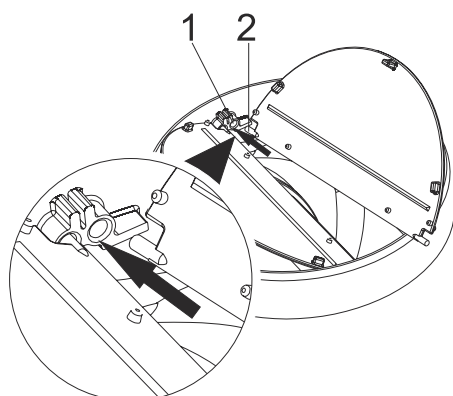

Fig. 10
- Insert the plastic pin (area no.2) on the pin socket on the motor exhaust (area no.1). Fig. 10. Then bend the flap lightly to insert the other pin on the flap and insert the other pin to its socket (Fig. 10).